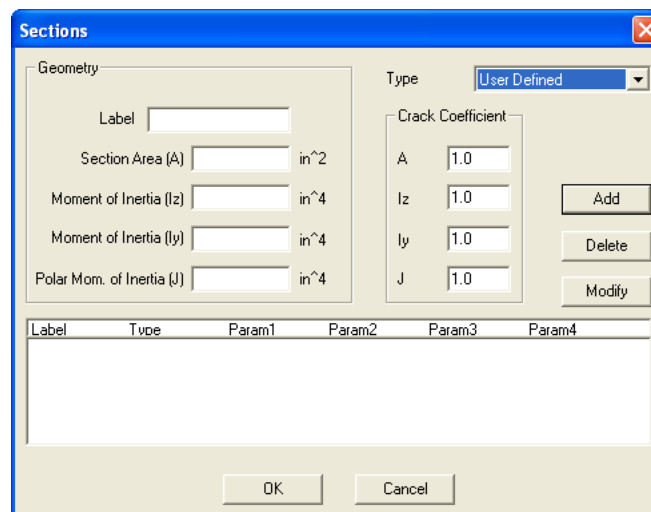

Figure 3-14 Sections dialog box
- From the **Define** menu, select **Sections**. The dialog box of Figure 3-14 appears.